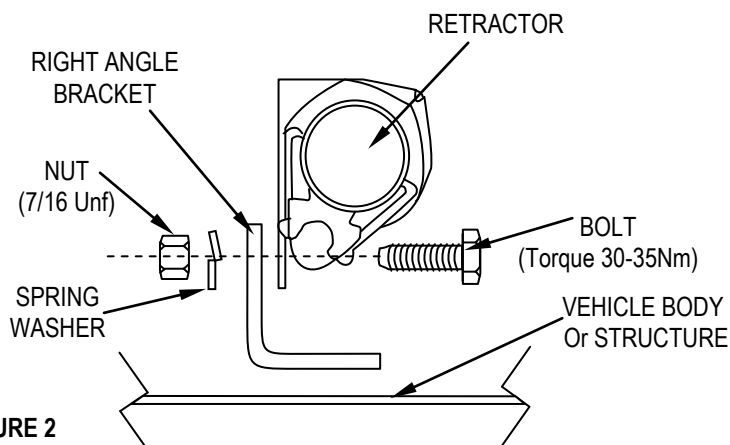

FIGURE 2
- Use the Right angle bracket to attach the retractor as shown in Fig. 2.